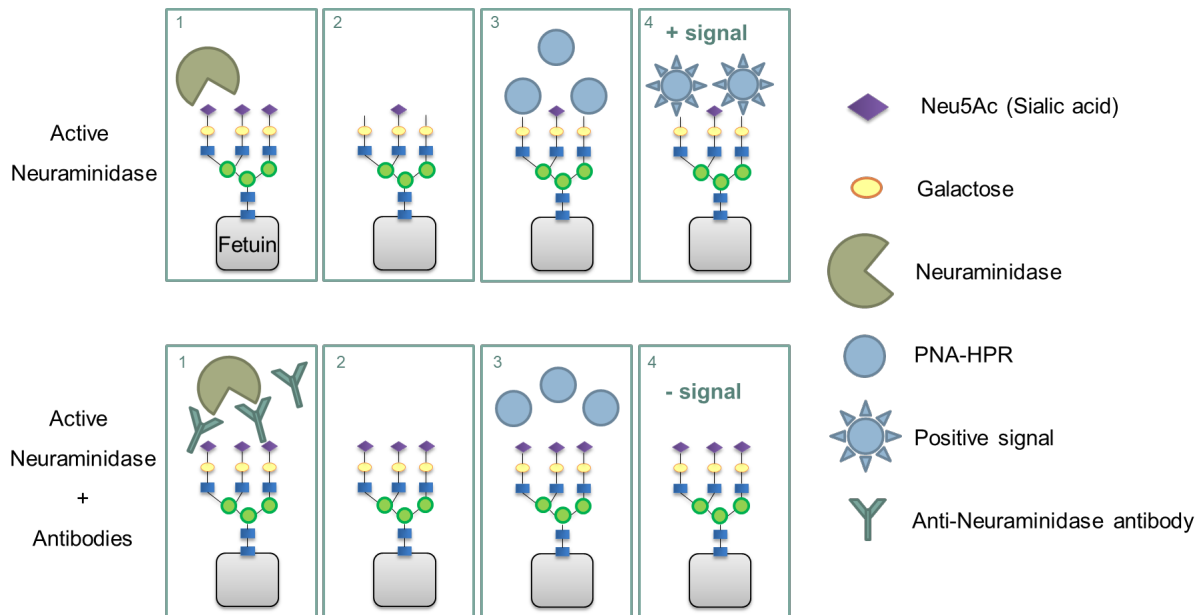

Figure 1: Enzyme-Linked-Lectin-Assay (ELLA) principle
The ELLA measures the amount of penultimate galactose that becomes available after the terminal sialic acid is cleaved from the fetuin substrate (attached on a solid phase) in the presence of NA source such as mismatched virus or recombinant NA protein. The subsequent incubation with a Peroxidase-labeled peanut agglutinin (PNA), specifically recognizing galactose, followed by an incubation with an enzyme substrate-chromogen reagent causes color to develop. The intensity of the signal after addition of the substrate is dependent on the level of desialylation and thus NA activity. In the neuraminidase inhibition (NI) ELLA assay, binding of NA by specific antibodies will inhibit the enzymatic function of NA and result in a reduction of desialylation and hence, in a reduction of the signal. The color intensity is inversely proportional to the amount of inhibiting NA antibodies present in the serum. The titer of a tested serum is expressed as the reciprocal of the last dilution with an OD equal to the cut-off value corresponding to 50% end-point titer determined according to a defined formula based on virus control and the background OD. Figure 1 shows a cartoon of the ELLA principle. Appendix 10.1 gives a synopsis of the method and 10.2 a timeline for testing a new antigen/sera.